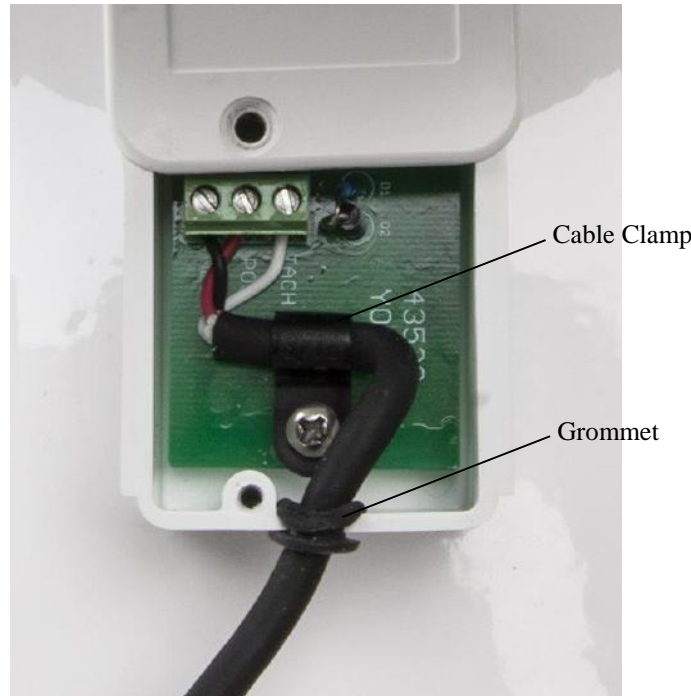

FIGURE 7-6. Closeup of terminal box
10. Gently bend the wires and cable and screw down the cable clamp as shown in FIGURE 7-6.
12. Clamp the blower power cable with the power cable clamp provided at the edge of the printed circuit card (FIGURE 7-6).